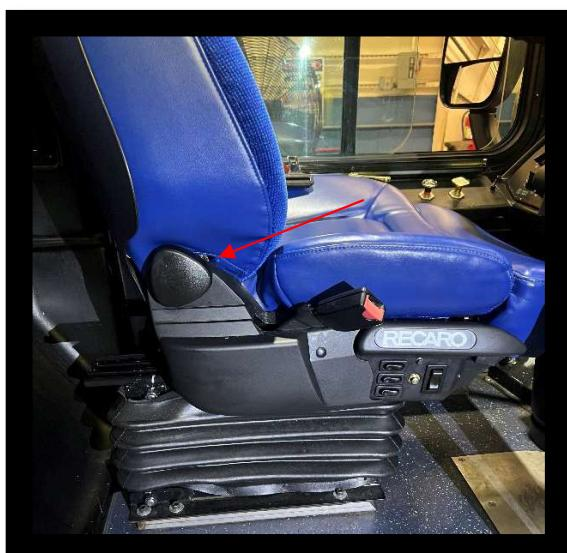

Figure 1a: Operator's Seat Knob Removal
7.1.2 Remove the hand wheel from the recliner shaft by gently prying with a trim panel removal tool (or similar prying tool). See Figure 1a and 1b.